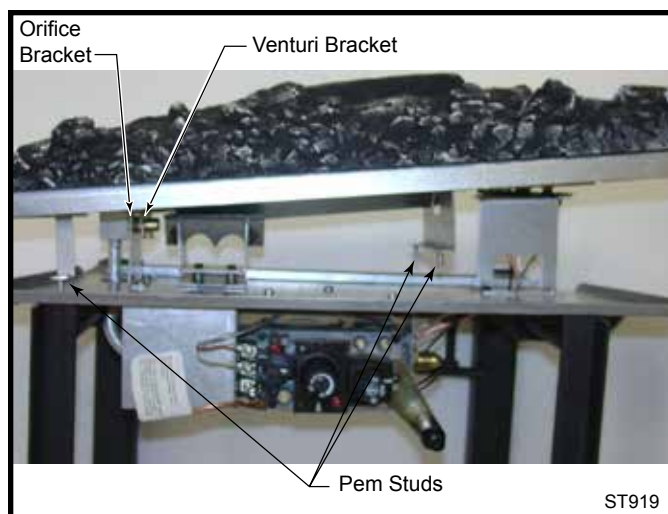

Figure 83 Tilt ember bed slightly to correctly place on venturi and air shutter.
1. Replace burner making sure venturi on bottom of ember bed aligns with orifice and is seated properly on air shutter assembly. (Figure 83) Make sure burner is slid into place at a slight angle and opposite to how it was removed. When burner is slid into place, the three (3) pem studs should slide down through clearance holes into the bottom of the control panel.
2. Remove the barrier screen and stove front by lifting up and then swinging the bottom out to disengage it from the heater shell. (Figure 83)